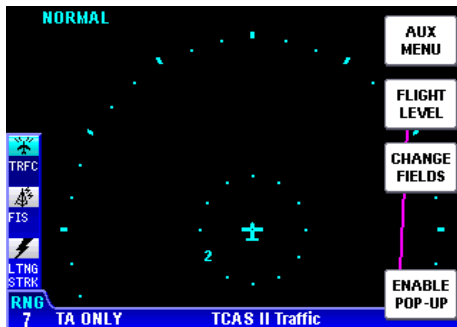

Figure 3-5
1. While viewing the Traffic Display, press the **MENU** Key to display the **ENABLE POP-UP** Softkey as shown in Figure 3-5. This Softkey toggles between **ENABLE** and **DISABLE POP-UP**.